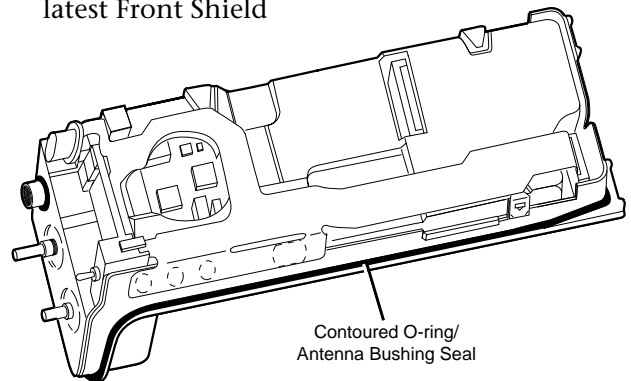

Figure 15 Installing the O-Ring/Antenna Bushing Seal
1. Install the contoured O-ring/antenna bushing seal around the antenna and in the groove provided (see Figure 15).